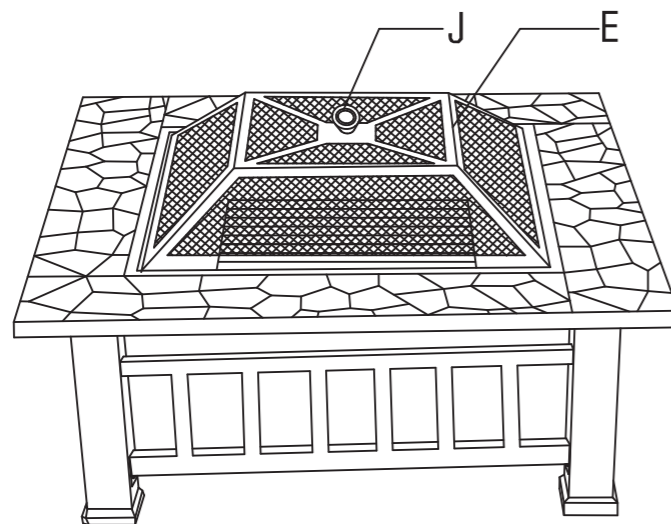

FIG5
Step 5 Remove Coffee Tabletop (N). Affix Lid Ring (J) to the Mesh Lid (E) by screwing the lid ring into the upper hole of the mesh lid. Then place the mesh lid on the square bowl. (View Fig 5)